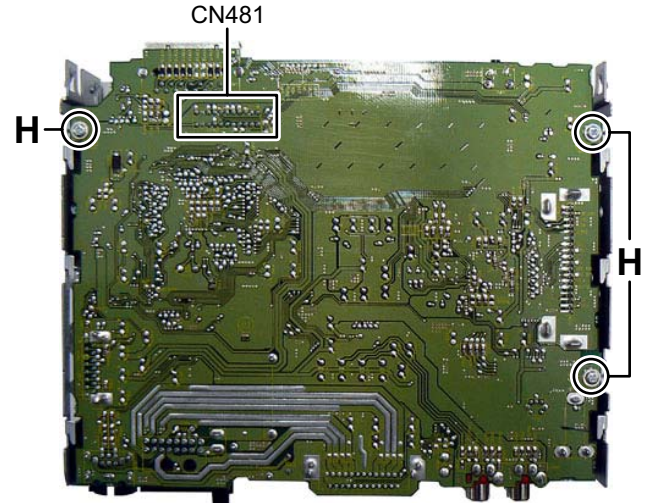

Fig.5
- (3) Remove the three screws **H** attaching the Main board. (See Fig.5)
- (4) Disconnect the B-B connector connected CD mechanism and Main board **CN481** of the Main board. (See Fig.5)
- Take out the top cover in an upward direction. (See Fig.5.)